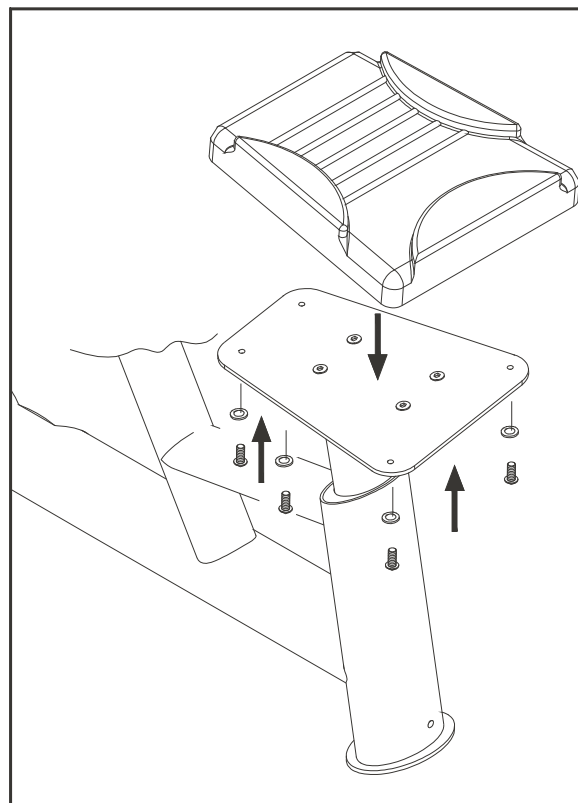

Fig.1-1
2. Fasten the seat cushion in the plate with screws provided. (See Fig. 1-1)